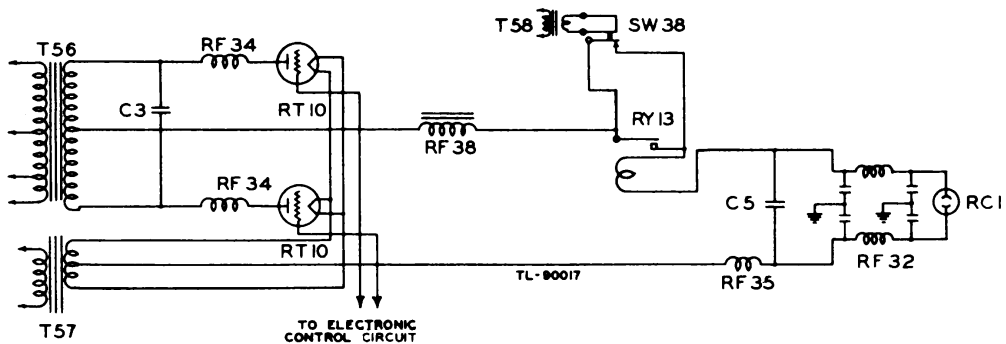

Figure 13. Functional diagram, rectifier tube circuit.
a. Figure 13 shows the important components of the rectifier (RT 10) tube circuit. Rectification of the a-c voltage supplied by the center-tapped secondary of T 56 is accomplished by a conventional full-wave arrangement in which each tube conducts during a half-cycle of the a-c wave, the output of the tubes being combined to give full-wave rectified current.